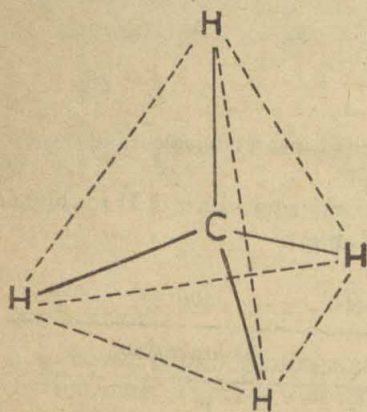

Fig. 10.4 Three-dimensional structure of methane
The question whether all four hydrogens and carbon atom of methane are situated in the same plane (i.e., planar) or are in different planes (i.e., non-planar) comes immediately to our mind. An answer to this was given first by le Bel and Van't Hoff in 1873, who said that the molecule is three-dimensional. The carbon atom is at the centre of a tetrahedron and the four hydrogen atoms are located at its four corners, as shown in Fig. 10.4. Consequently each  $\text{H}-\text{C}-\text{H}$  angle is  $109^\circ 28'$ .
*Model of methane ( $\text{CH}_4$ ):* It is simple to make it because it involves only one carbon atom which is attached to four hydrogen atoms that are at an angle of  $109^\circ 28'$  from one another (Fig. 10.4).